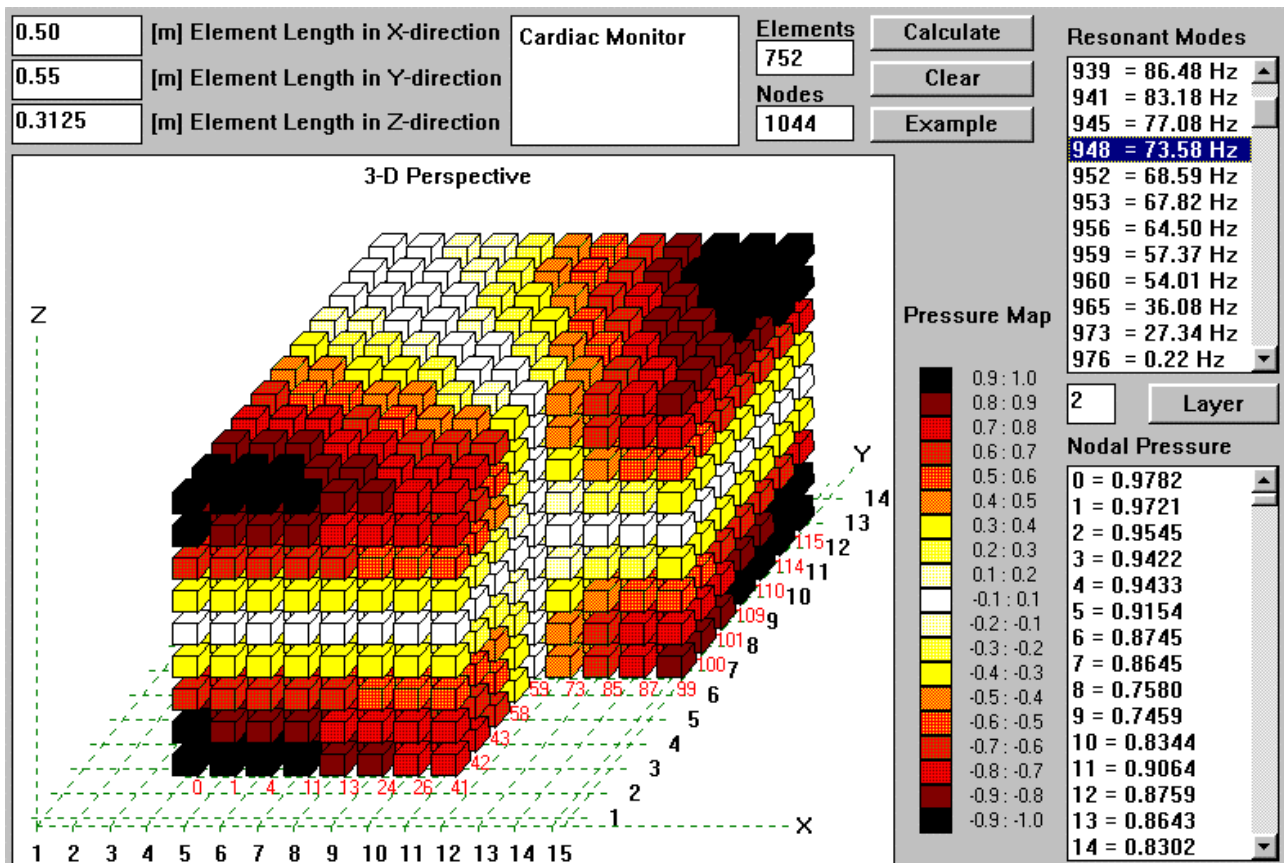

Figure 10. Pressure distribution of the 73Hz mode.
5. Fig 10 shows first order tangential mode of 73.6Hz developed between corners C-F and the ceiling.